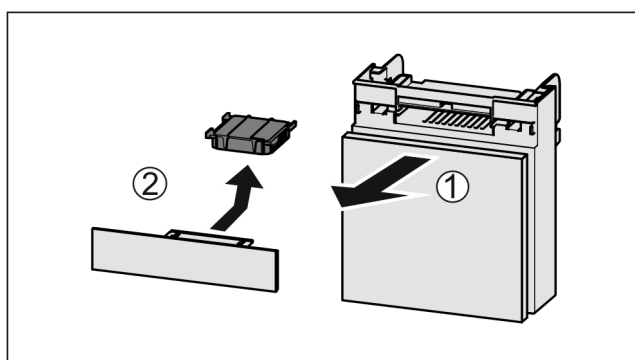

Fig. 133
- Pull out the compartment Fig. 133 (1).
- Remove the carbon filter Fig. 133 (2).